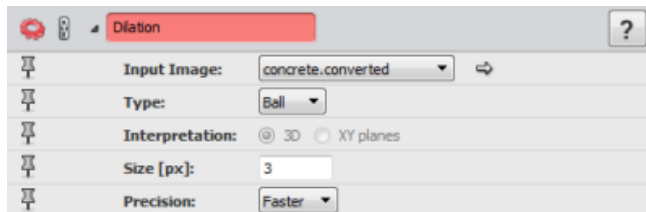

Figure 12.18: Default parameter settings of the *Ball Dilation* module
6. To dilate the centerlines back to fit the original data, attach a *Ball Dilation* module to *concrete.converted* and set the parameters as shown in Figure 12.18: